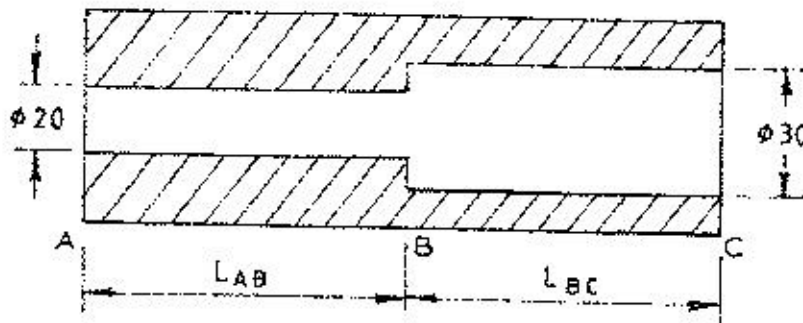

Fig. 2
- (b) (i) Figure 2 shows a shaft ABC of length 500 mm and external diameter 40 mm bored for a part of its length AB, to a 20 mm diameter and the remaining BC to a 30 mm diameter. If the shear stress is not to exceed 80 MN/m^2 , determine the maximum power that the shaft can transmit at a speed of 200 rev/min.